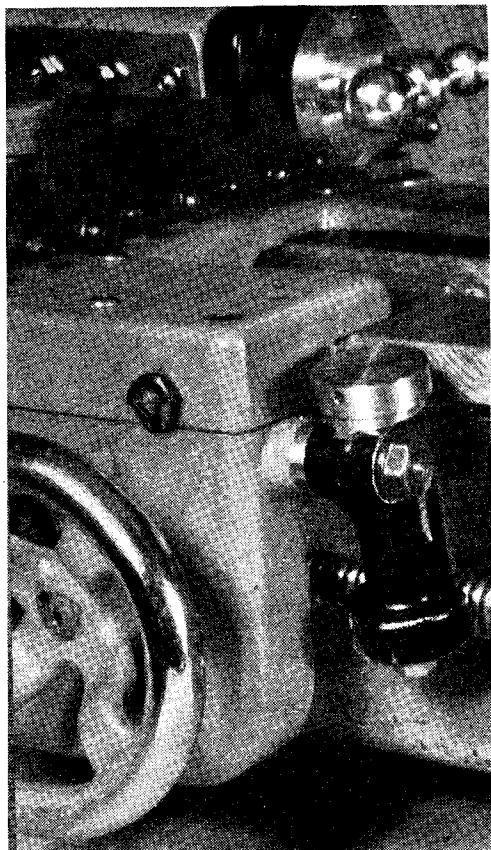
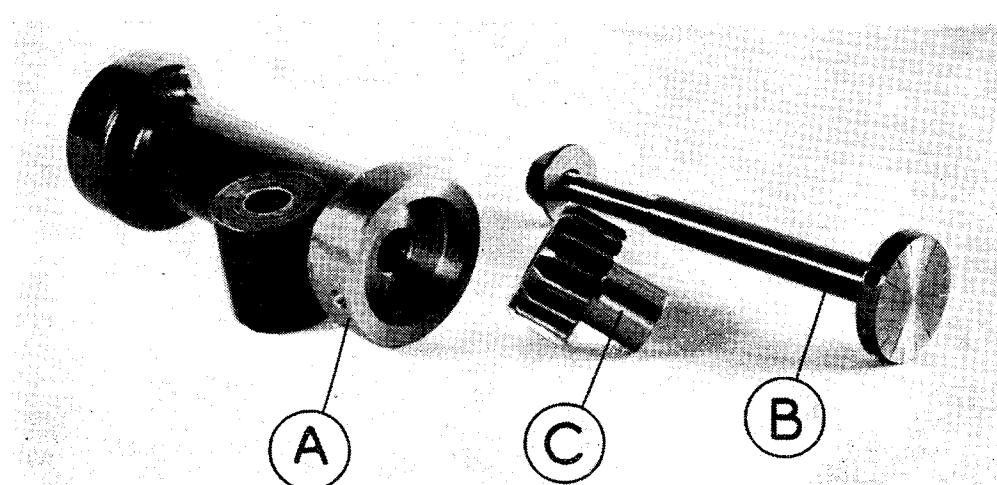

Fig. 1. Modified Myford thread indicator
Fig. 2. The component parts of the thread indicator
The reconstructed indicator is seen in position in Fig. 1, and its component parts are illustrated in Fig. 2.
The body is first machined by mounting it on a stub mandrel and boring out the upper end to a diameter of $\frac{3}{8}$ in. and to a depth of $17/32$ in. At the same time, the upper end is faced and the external surface of the head machined, as will be seen in Fig. 1. The work is then reversed on the mandrel and the lower end is also bored $\frac{3}{8}$ in., but to a depth of $\frac{7}{16}$ in.
The cavity to receive the head of the dial shaft (B) is then turned with a small, pointed boring tool, and by reference to the leadscrew index the work is finally faced to bring the recess to the exact depth required. As shown in the photograph, Fig. 2, the bore is countersunk or counterbored for a short distance to provide clearance for the neck of the dial spindle.
The index line, which is also apparent in Fig. 2, is cut on the diameter by mounting a 45 deg. V-tool on its side at centre height in the lathe toolpost, and then feeding it outwards almost as far as the edge of the capping.